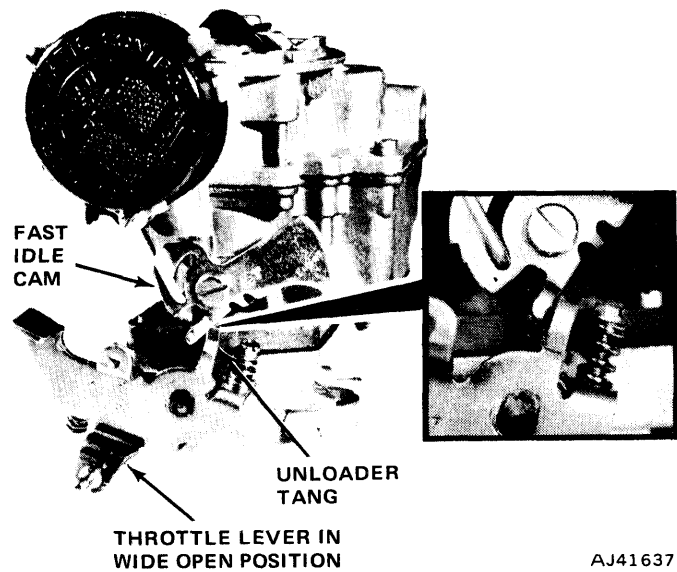

Fig. 4-32 Choke Unloader Adjustment
(3) Adjust by bending unloader tang which contacts the fast idle cam as shown in figure 4-32.